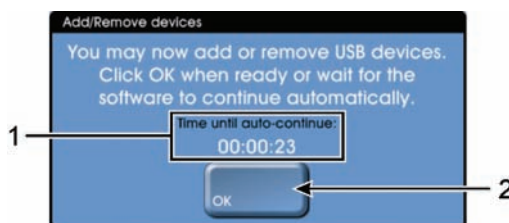

Figure 149: “Add/Remove devices” dialog box — instrument ready for changes
4. When the device is ready, the “Add/Remove devices” dialog box will change to indicate that you can now remove the device (see Figure 149).
5. You have 30 seconds to remove the device before the function automatically times out (see item 1 in Figure 149).
Select the **OK** button from the “Add/Remove devices” dialog box (see item 2 in Figure 149)
Wait for the auto-continue function to activate after 30 seconds (see item 1 in Figure 149).